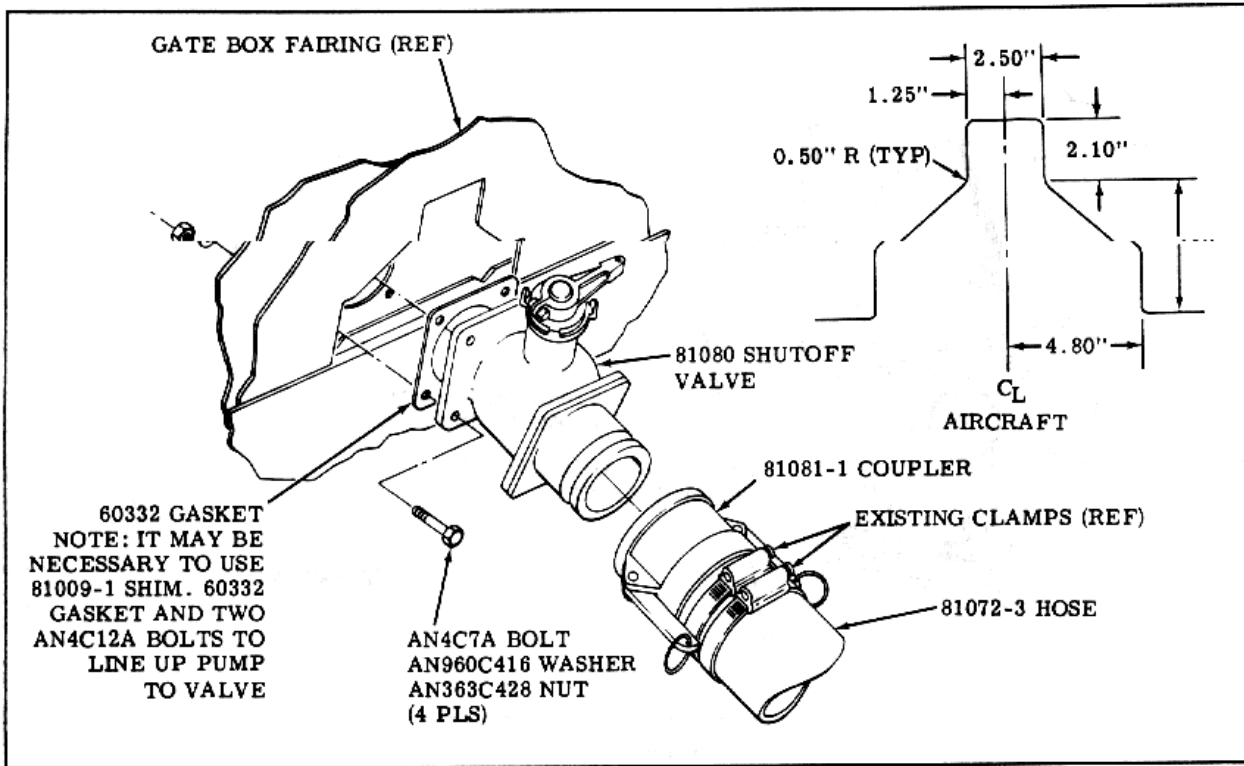

Figure 3.
- h. Install 81080 shutoff valve, 60332 gasket (s), 81009-1 shim (if required), 81081-1 coupler and 81072-3 hose on hopper (see Figure 3.).
- o. Scribe and make cutout on existing gate box fairing to allow clearance for shutoff valve (see Figure 3.).